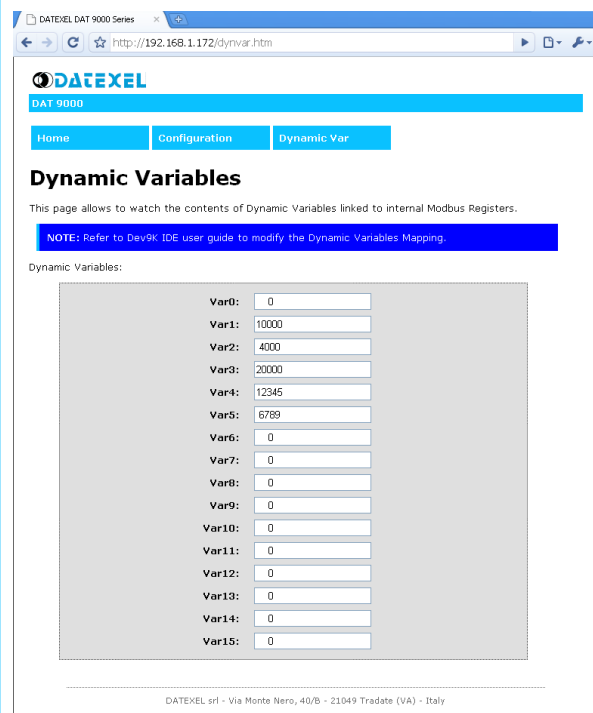

Fig. 6.13
- **Dynamic Var** (Fig.6.13) (<http://192.168.1.172/dynvar.htm>): In this page are visualized the values of the Internal Registers from the %R26 up to the %R41. To update the value of the Registers it is necessary to use the F5 key.
Open the "Scheduler" window (Fig.6.14), selecting "Tools -> Scheduler" (Fig.6.13) to insert the tasks relative to the data-logger.